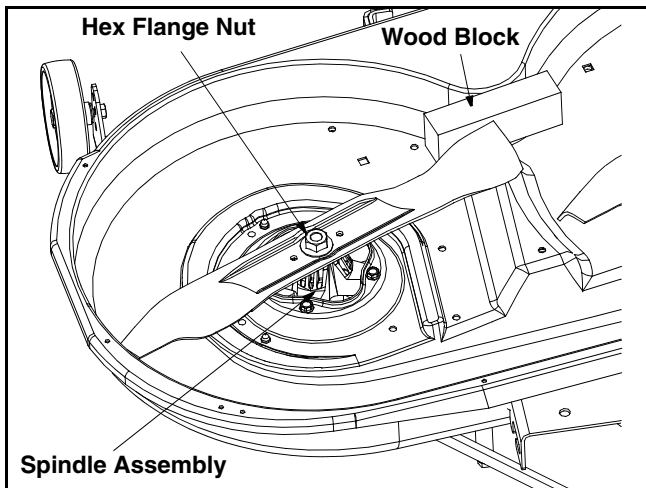

Figure 19
- Place a block of wood between the center deck housing baffle and the cutting blade to act as a stabilizer. See Figure 19 .
- Remove the hex flange nut that secures the blade to the spindle assembly. See Figure 19.